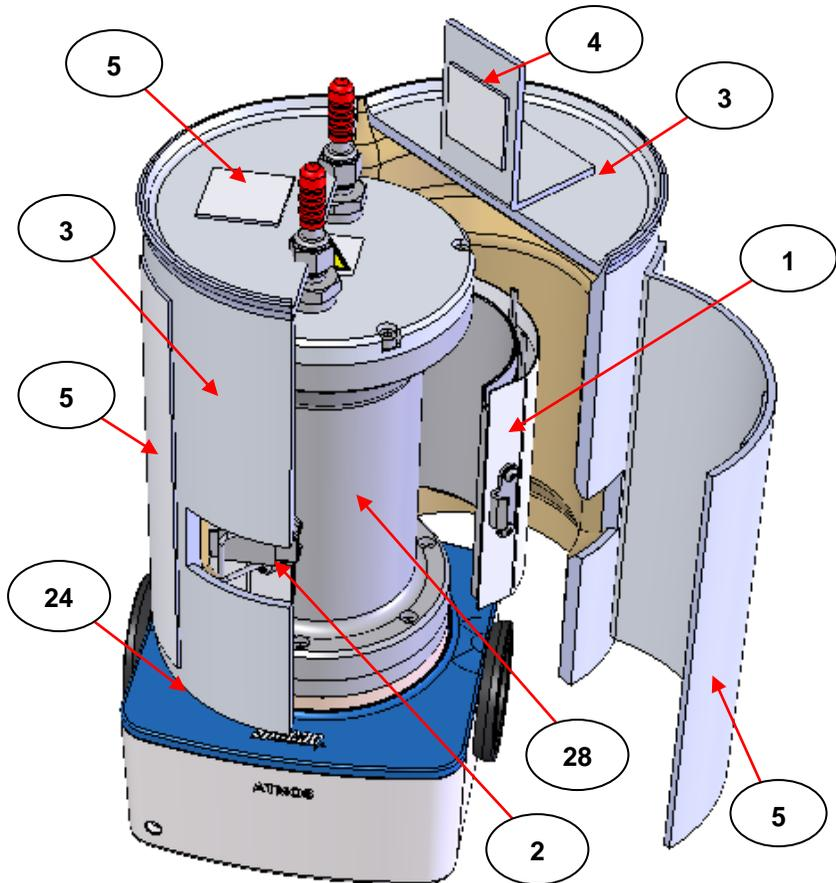

Fig 3. Opened Heating Jacket Positioned Over Atmos Gas Cell
With the inner heating jacket (1) parts opened as wide as possible, carefully lift the heating jacket assembly (1) to lower over and surround the metal body (28) of the Atmos gas cell. The underside edge of the heating jacket assembly (3) should come to rest on the top surface of the lower screw fixing flange ring for the Atmos gas cell body (28). (See Fig 3.)
Take the outer insulating jacket (3) fabric casing to cover over the closed heating jacket assembly (1) correctly. Affix the fabric flaps (4) at the top and side of the insulating jacket (3) to their corresponding Velcro strip pads (5) to keep the outer insulating jacket (3) securely closed. The underside edge of the outer insulating jacket (3) should come to rest on the top section (24) of the optical unit for the Atmos gas cell. (See Fig 3.)